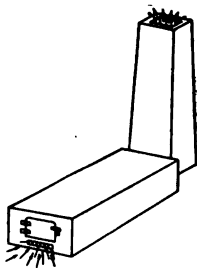

FIGURE 32. — DRAFT
57. Drafts in Chimneys. — Drafts in chimneys are due to convection currents. A fire is started in the fire-box of the furnace. (Figure 32.) This warms the air, and causes it to expand and become lighter than the surrounding air. The cold air then pushes the warm air up the chimney and takes its place in the fire-box. This air is then heated, and the process is repeated, or rather it takes place continuously. The higher the chimney, the greater the draft.
Suppose the chimney (Figure 32) were 4 ft. square and 100 ft. high; and suppose the air raised from 0° C. to 273° C., when the fire started.